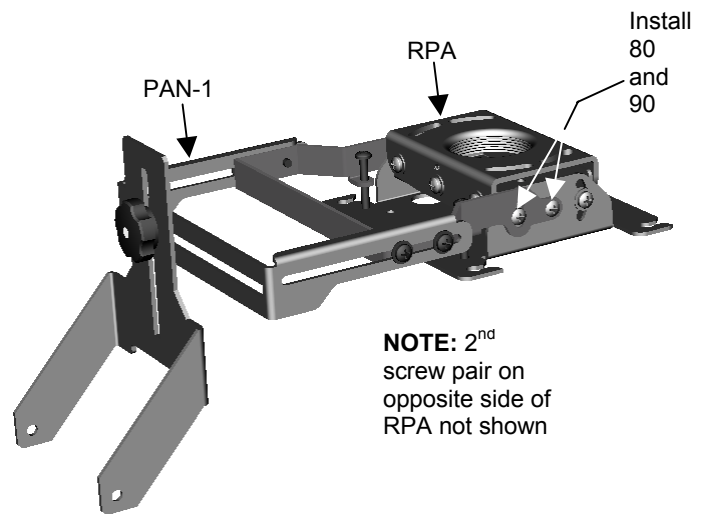
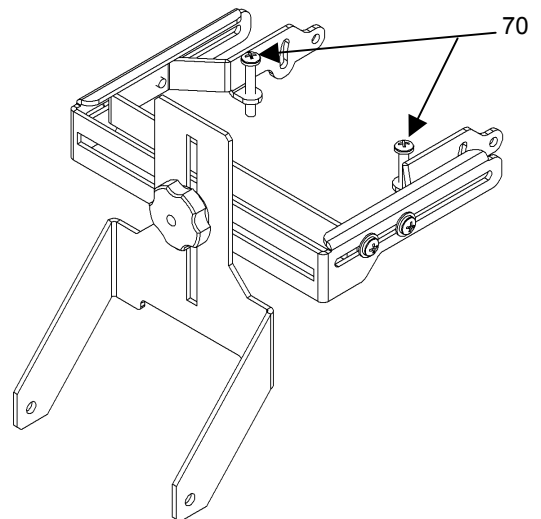

Figure 6. Attach PAN-1 to RPA
Figure 7. Install Angle Adjustment Screws
4. Slide the PAN-1 over the RPA projector mount, as shown in Figure 6.
6. Locate the parts bag supplied with the PAN-1. Find four 5/8" screws (80) and four #10 washers (90).
7. Attach the PAN-1 to the RPA by installing four screws (80) and washers (90) into the threaded holes on the RPA (see Figure 6).
8. Find two 1-1/4" Phillips screws (70) in the parts bag.
NOTE: Stop threading each screw (70) when the end protrudes through the bracket hole approximately 1/4" as shown in Figure 7.
9. Install two screws (70) in the threaded tabs on the PAN-1 (see Figure 7).